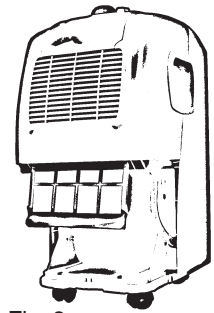

Fig. 8
Pull out the filter holder and remove the active carbon filter (C) (Fig. 8, 9). Use a vacuum cleaner, or rinse the filter lightly with water. If the filter is particularly dirty, use warm water and some mild detergent (Fig. 10).